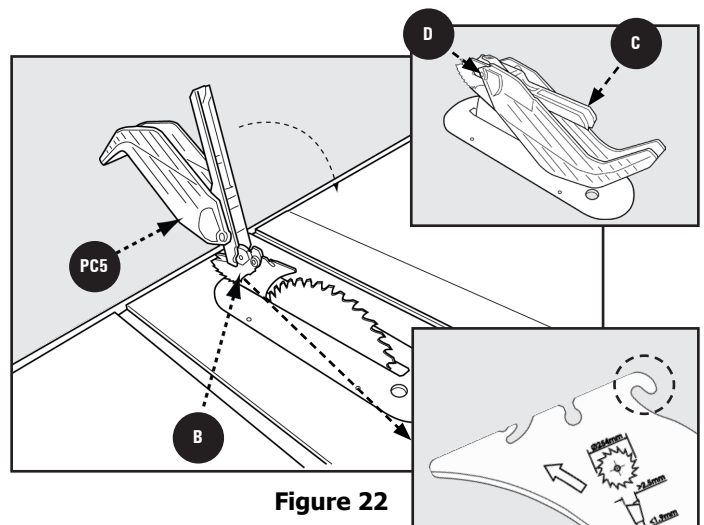

Figure 22
3. Rotate the Blade Guard Assembly toward the front of the Saw until the metal portion **C** of the Blade Guard Assembly is parallel to the Table as shown in Figure 22.